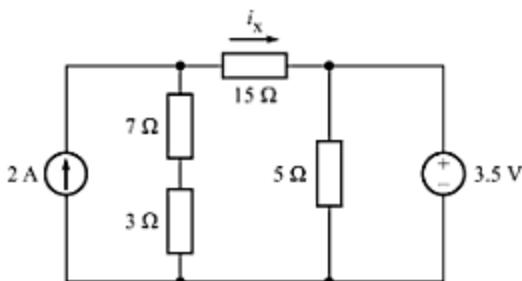

Fig. A-71
- A-30. For the circuit of Fig. A-71, use superposition theorem to find the current i_x in $15\text{-}\Omega$ resistor.